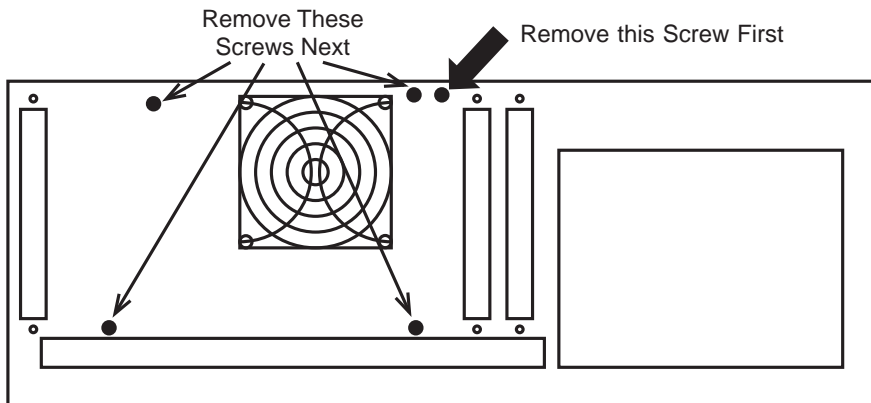

Figure 2.3
2. Remove the four (4) screws that secure the case top to the computer's frame (there are two (2) screws on the right side and two (2) on the left), remove the single screw shown in figure 2.3 and remove the case top. Put the screws in a safe place.
3. Remove the three (3) screws that secure the front of the power supply assembly. Turn the computer around and remove the four (4) screws shown in figure 2.3. Put the screws in a safe place.